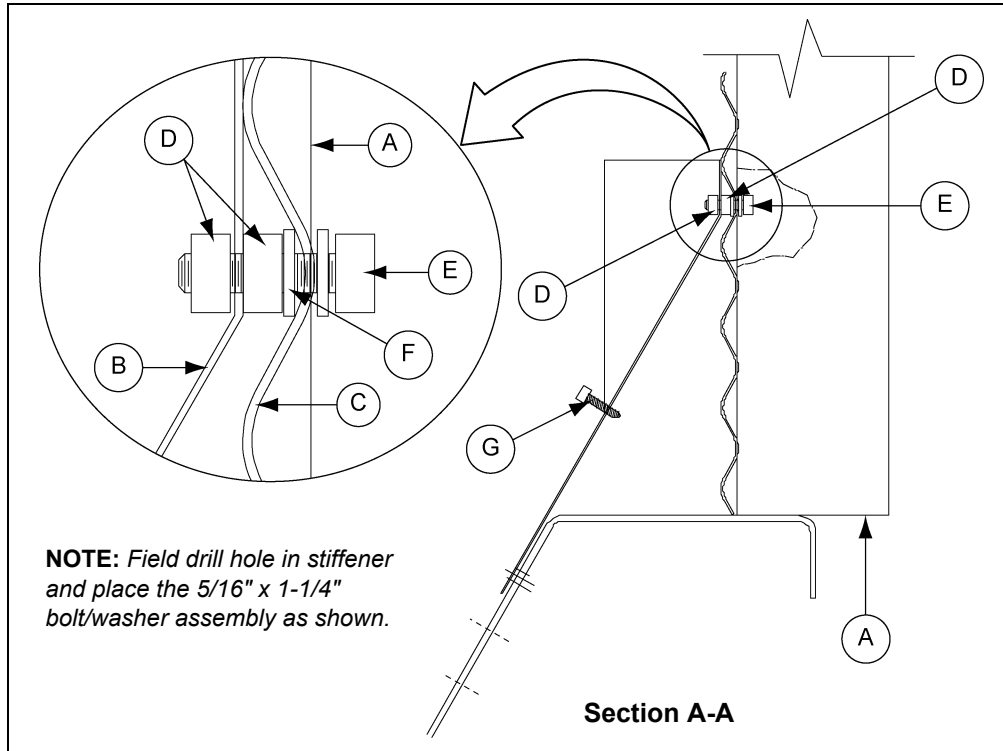
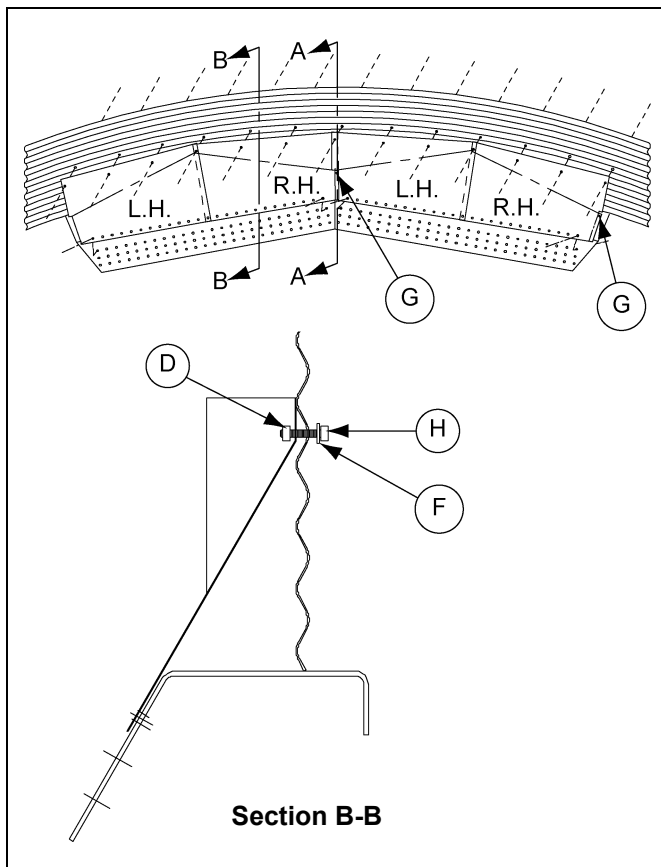

Figure 1
Figure 2
2. Field drill through the stiffeners and bolt through the sidewall sheet and stiffener with a 5/16" x 1-1/4" bin bolt. Install a neoprene washer on the inside of the tank and clamp it down as shown in Figure 1 on Page 2.
4. Starting with a right hand flashing piece, bolt the sidewall sheet loosely to the flashing using 5/16" x 1-3/4" bolts with a neoprene washer on the outside only through the center two (2) holes. Working in a clockwise direction, start the nut on the pre-assembled flashing/stiffener bolt.
5. Loosely bolt the two (2) center holes on the left hand flashing piece with 5/16" x 1-3/4" bolts with a neoprene washer on the outside only. Using the same type bolt and washer, loosely bolt the left hand and right hand lap seam.
7. To finish, go back and install the 1/4" self-drilling screws (S-7229). (See Figure 2 on Page 2 for locations.)